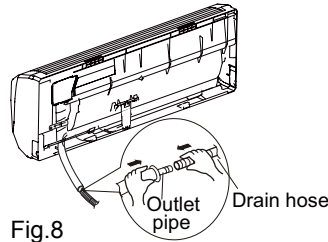

Fig.8
- (1) Connect the drain hose to the outlet pipe of indoor unit. (As show in Fig.8)